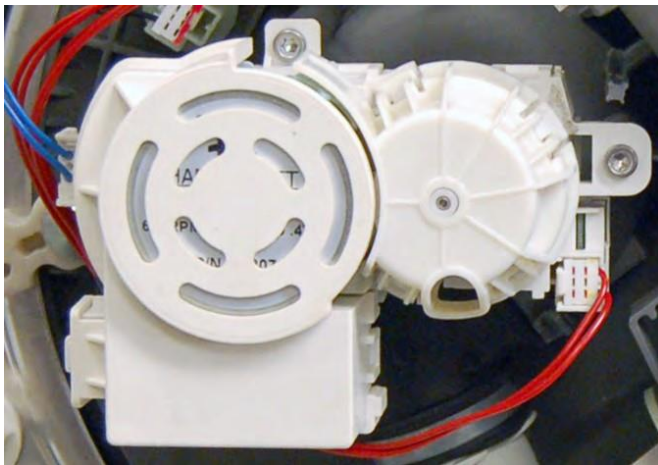

Figure 1 - Diverter assembly w/spray arm motor
2. If not done already, disconnect the diverter motor and sensor harnesses; and if available, the lower wash arm motor harness*. (See figure 1.)
***Note:** The lower spray arm motor, which is incorporated into the diverter assembly (see figure 1), is available on models that have the controlled lower spray arm.